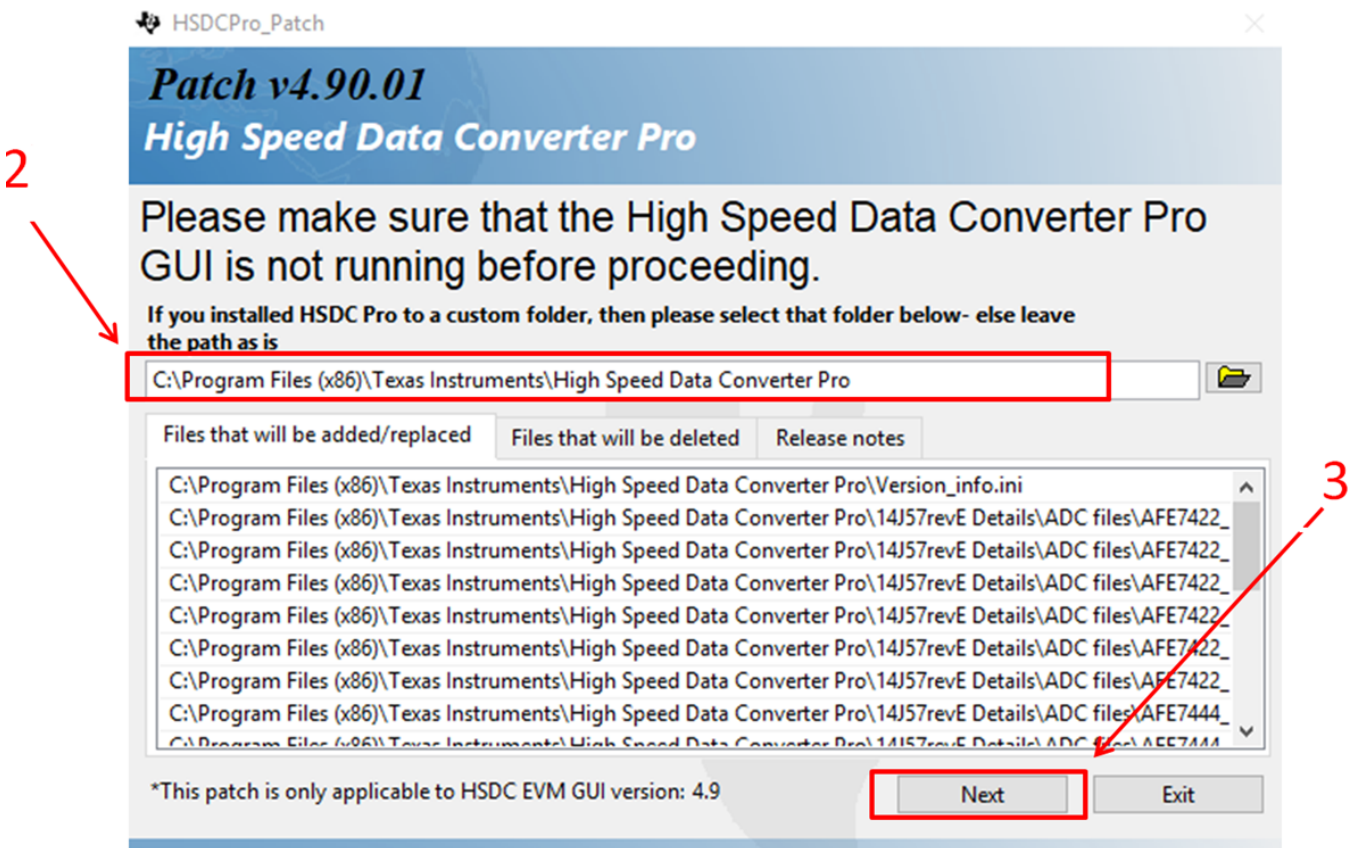

Figure 3. HSDCPro Patch v4.90.01
2. As shown in Figure 3, copy and paste the following path into the program: